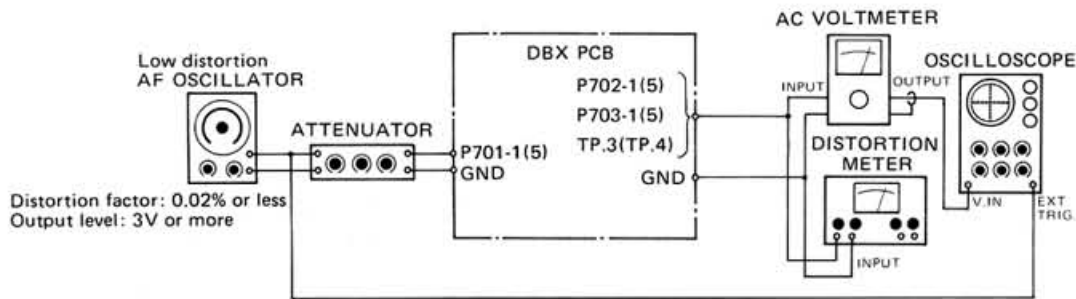

Fig. 3-11 Connection for encoder adjustment
1. Disconnect wires (with connector) from connectors P701 ~ P703, then make connections as shown on Fig. 3-11. (Each connector's pin 1 and pin 5 correspond L-ch and R-ch respectively.)